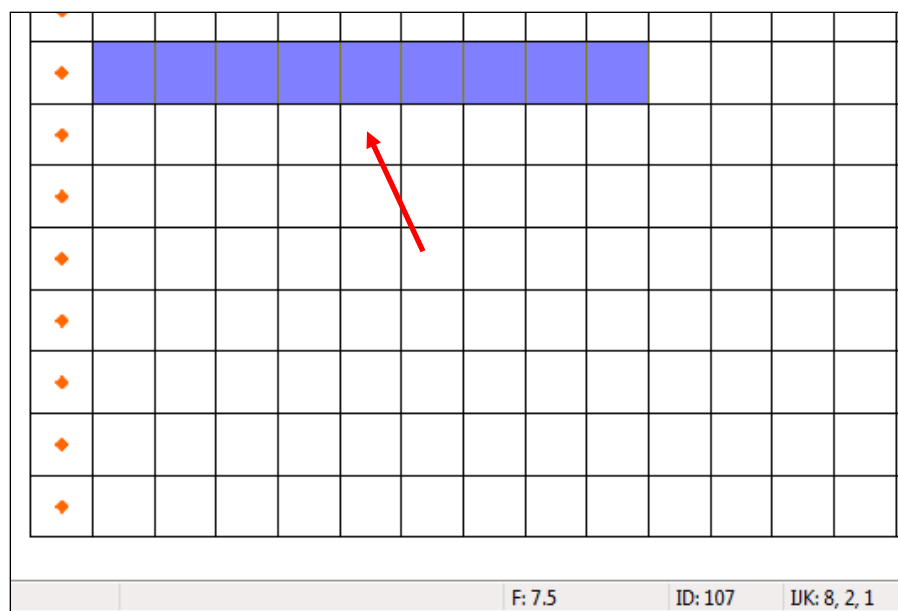

Figure 5 Cells to be selected
The drains are located in the top layer (Figure 5).
3. Using the **Select Cells**  tool, draw a box selecting cells 2–10 on row 8 (Figure 5).